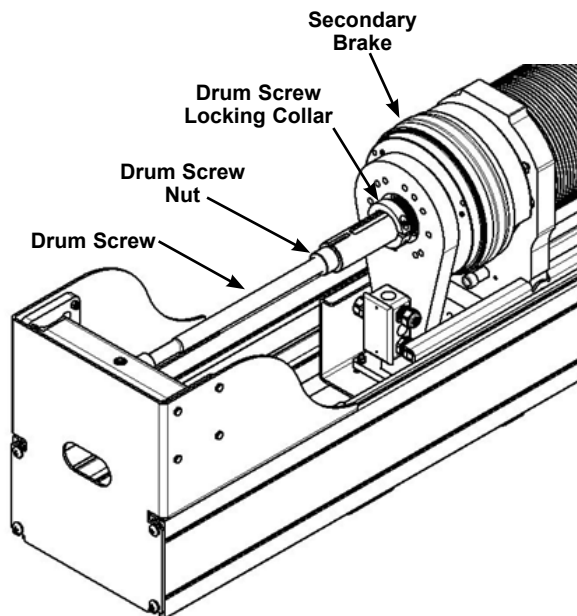

Figure 5: Drum Screw
1. Confirm that a film of grease covers the entire exposed area of the drum screw as seen in Figure 5.